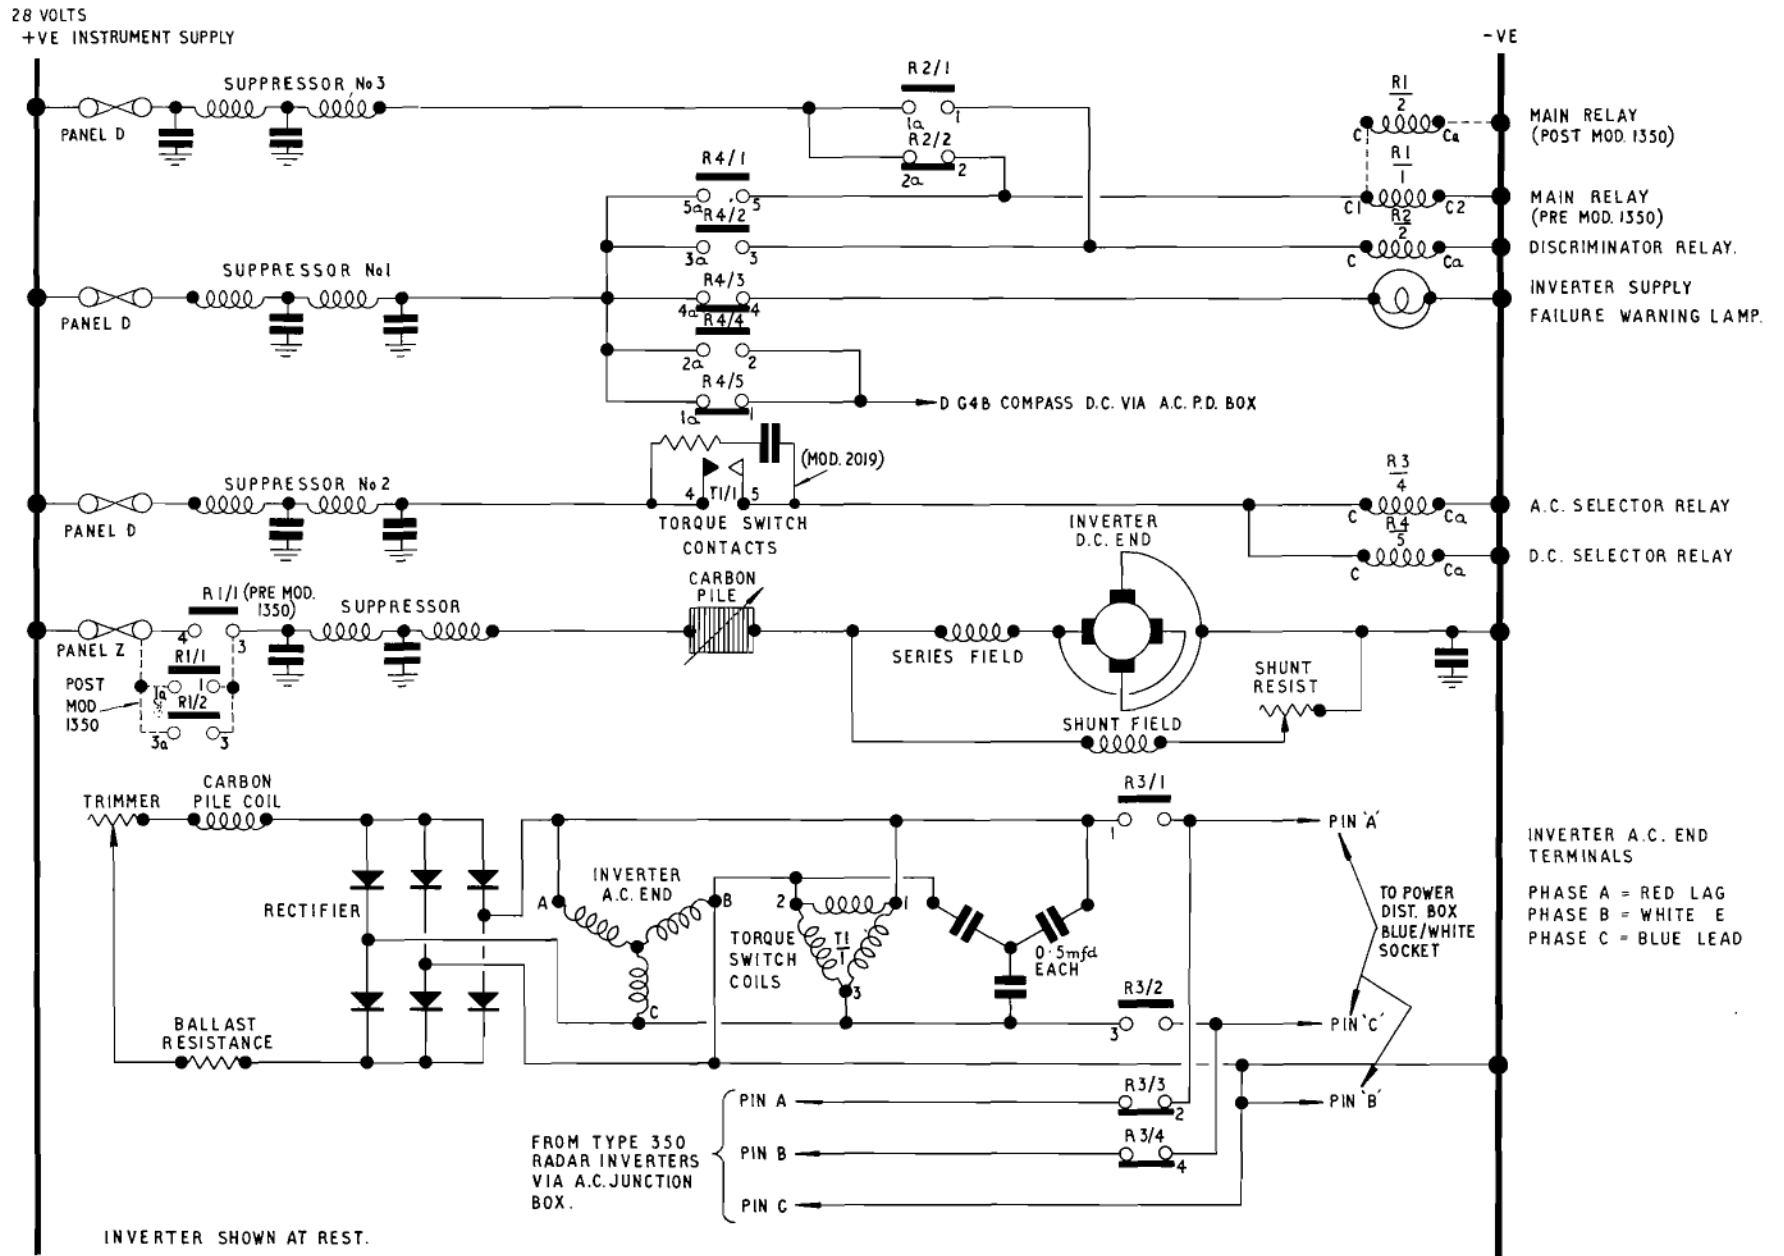

Fig. 1. Type 100A Instrument supply inverter (pre-Mod. 2648)
Instruments supply (fig. 1 and 2)
4. When the INSTRUMENT MASTER switch is selected ON, the instrument bus-bar is connected to the 28-volt bus-bar on panel Z by the instrument contactor (Chapter 2, Group 3, fig. 1) and the red warning lamp, on panel G, is supplied at 28-volts from the starboard fuse panel D, through the d.c. selector relay R4. At the same time, the inverter main relay R1, Type P1, mounted on the inverter relay panel on the rear pressure bulkhead, is energized by a supply from panel D, through the discriminator relay (R2/2) (at rest), Type S1, mounted in the inverter torque switch box on the radio crate.
Inverter failure (fig. 1 and 2)